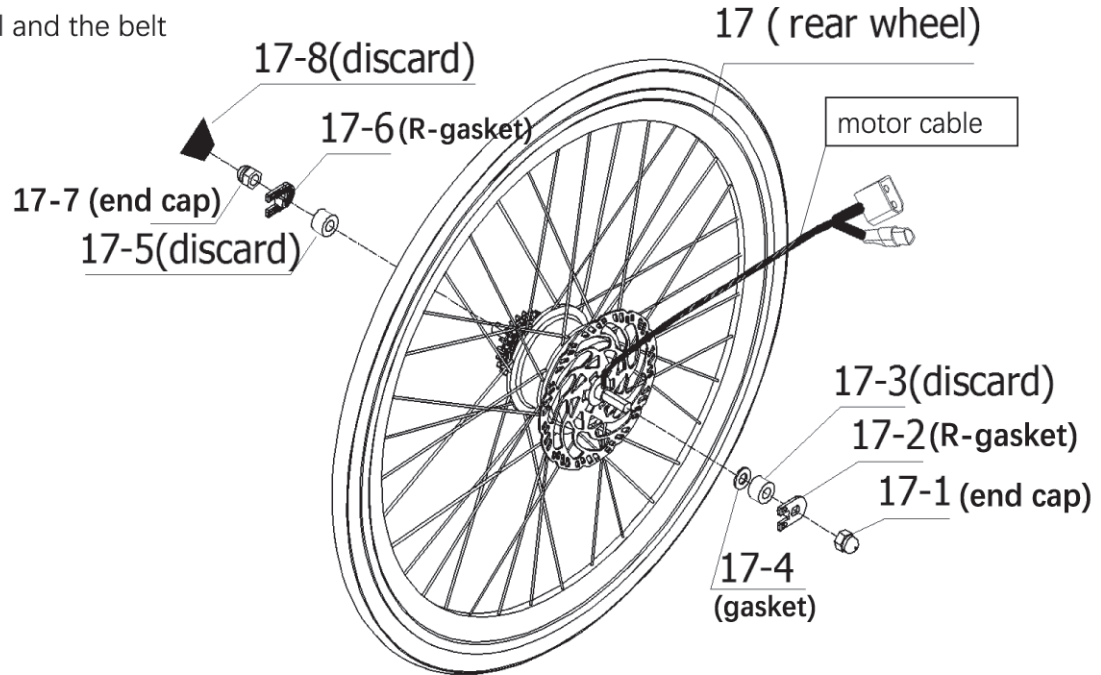

Figure 27.
- a. Remove hardware piece by piece in Part 17 **except the gasket 17-4**, then discard 17-8, 17-5, and 17-3, as shown in Figure 27.